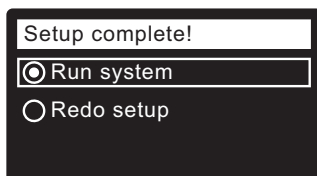

FIG. 27
22. Press the SELECT (O) button. The screen will show "Setup complete!" (See Figure 27).
23. If, at this point, you want to go back and make changes, press the DOWN (▼) button to scroll to **Redo setup**, then press the SELECT (O) button twice to repeat the "wizard" screens.
24. If no changes are desired, make sure **Run system** has a dot next to it (See Figure 27) and press the SELECT (O) button. The unit begins normal operation, described on Page 14.